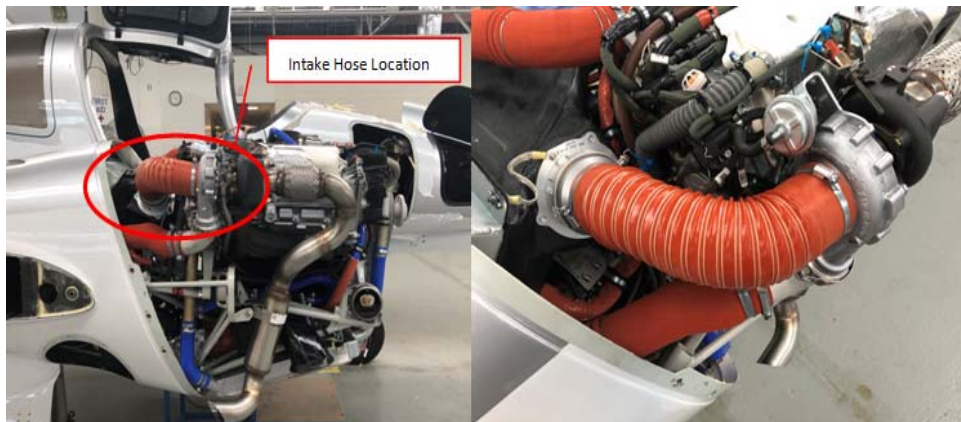

Figure 2: Intake Hose Location in DA 62 Aircraft
- 1.4.2 Customers are advised to confirm the correct part is installed on their DA 62 aircraft. The hose is installed in the air intake system between the alternate air valve and the turbocharger. Location of the hose is shown in Figure 2 below.